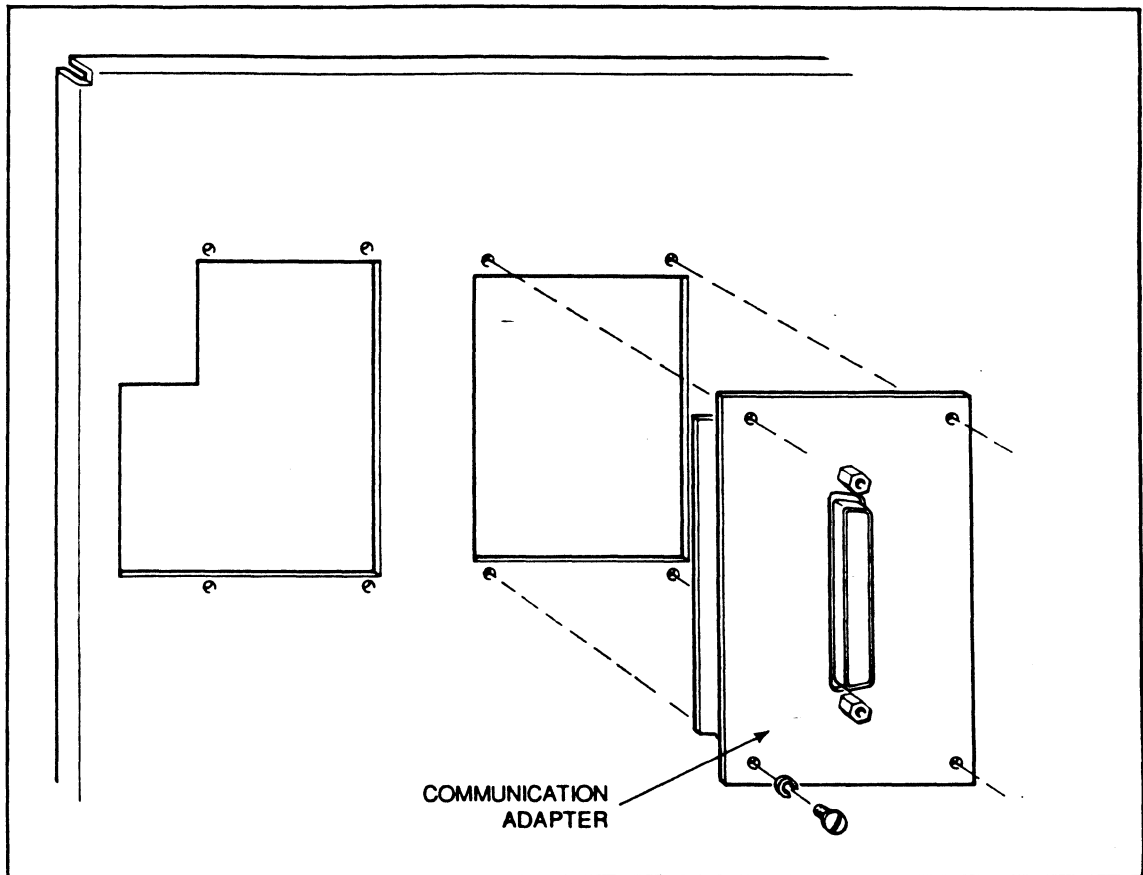

Figure 2-8 Communication Adapter Installation
2. Install Xycom Communication Adapter with four screws (see Figure 2-8).